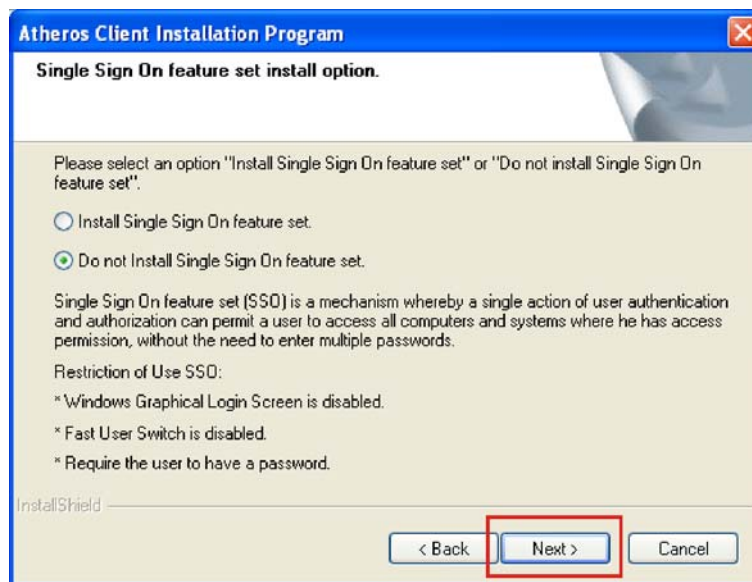

Figure 6-36: Single Sign On Installation
Step 19: The **Single Sign On** window appears (Figure 6-36).
Step 20: The **Single Sign On** stores the passwords used to gain access to other computer on the network and protects them with a single master keyword (Figure 6-36).
Step 21: A client installation message appears (Figure 6-36).